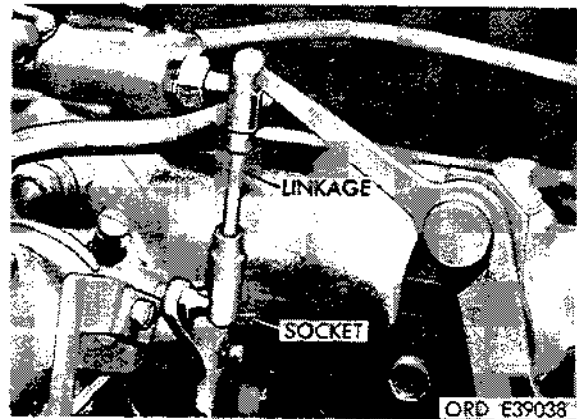

Figure 2-95. Disconnect linkage.
(6) Disconnect throttle linkage at throttle valve arm ball joint socket (fig. 2-95).